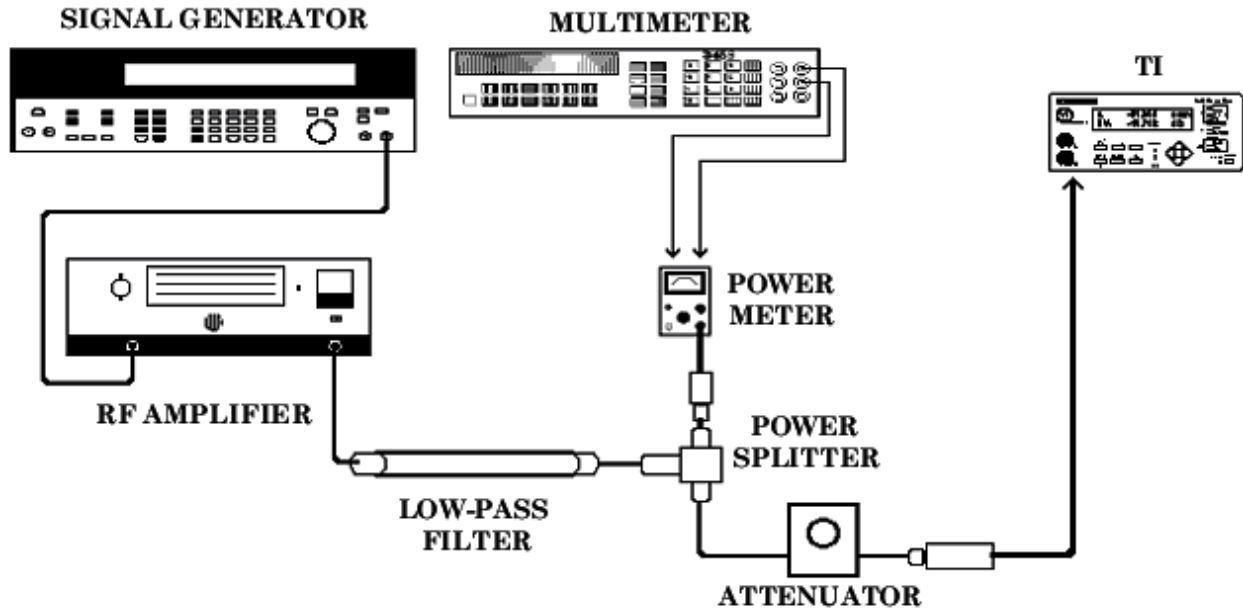

Figure 2. Power Sensor Linearity Equipment Hookup.
- (1) Connect equipment as shown in fig. 2.
- (1) Connect equipment as shown in figure 2.
- (2) Set the step attenuator to 70 dB. Connect TI sensor to TI front panel **CALIBRATOR** output and zero the TI by pressing **ZERO/CAL**.
- (3) Set the step attenuator to 0 dB after the TI chimes to signal completing the zeroing process. Reconnect sensor to equipment hook up.
- (4) Set the multimeter to a range that results in a 1 μV resolution. Connect the positive and negative leads to the **V_{COMP}** and **V_{RF}** connectors respectively on the rear panel of the power meter.
- (5) Fine zero the power meter and set power meter **RANGE** switch to **1 mW**.
- (6) Record the multimeter indication as V_0 .
- (7) Set the signal generator output to 1.0 GHz and level to 1.00 mW as indicated on the power meter.
- (8) Record multimeter reading as V_1 . Record TI reading as P_i .
- (9) Disconnect the multimeter negative lead from the **V_{RF}** connector on the rear panel of the power meter and connect it to chassis ground. Record this voltage as V_{COMP} .
- (10) Calculate that actual power using the formula listed below and record as P_t .